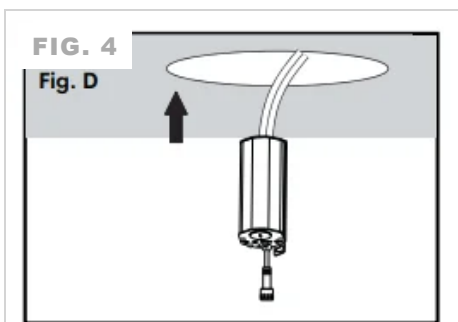

Fig. 4 · Hardwire box through ceiling
**05** Insert hardwire box through the mounting hole. (FIG. 4)